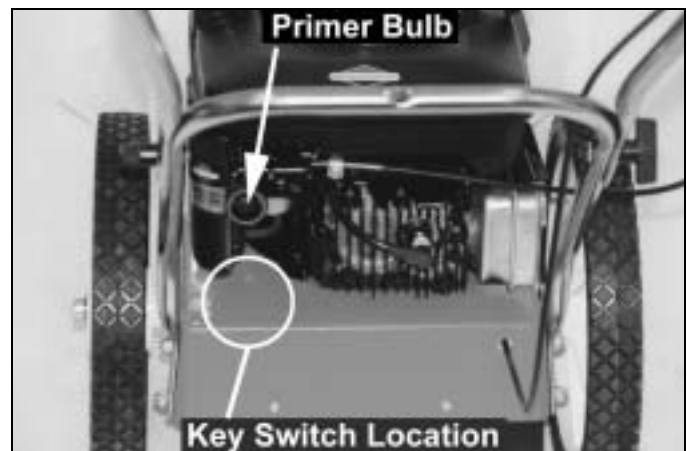

Figure 14
2. Prime the engine. Make sure you completely cover the air hole on the primer bulb (*Figure 14*). Push the black primer bulb in and hold it for three seconds, then completely release it for three seconds (making sure you uncover the air hole). Repeat three to four more times.
3. Turn the key to the START position until the engine starts, then release. The key will snap back to the RUN position (*Figure 14*).